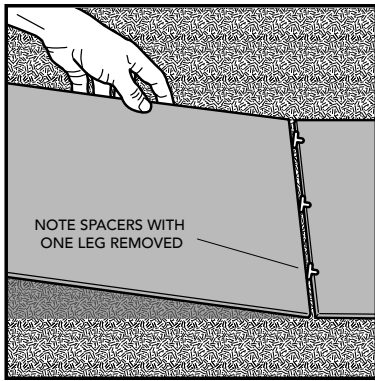

FIGURE 15 Lay the tile lightly against the spacers
- Position two or three spacers along the edge of the first tile then lay the next tile lightly against the spacer without forcing it into place (Fig 15).